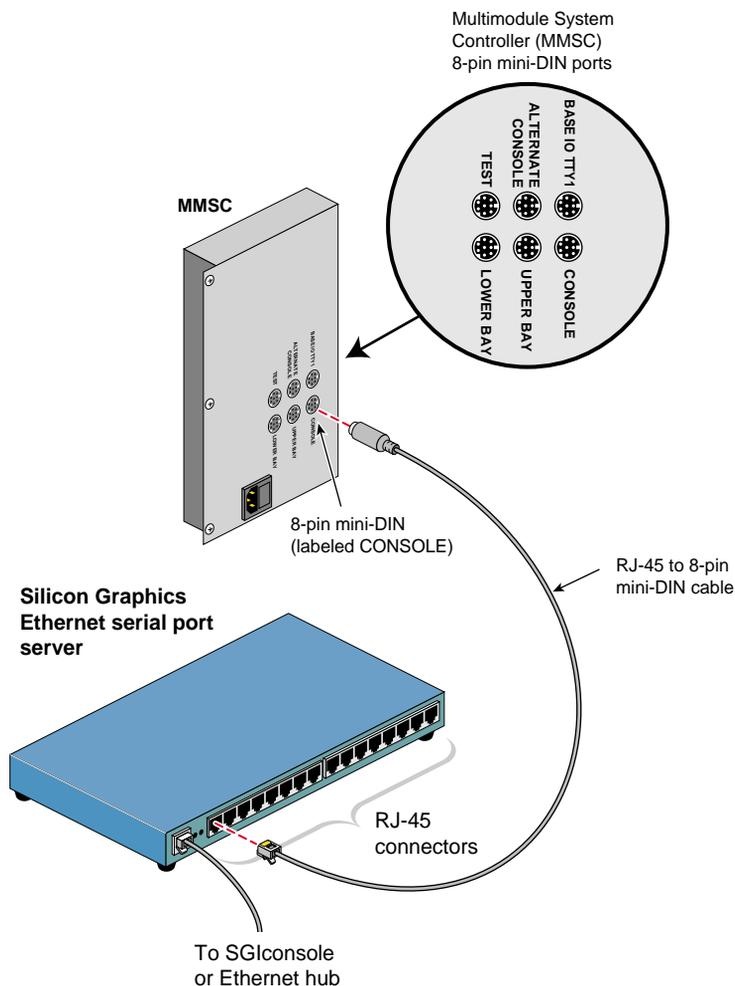

Figure 5-20 Connecting the MMSC 8-pin Console Port to the Serial Port Server
6. Connect the RJ-45 connector end of the RJ-45 to 8-pin mini-DIN twisted-pair serial cable to one of the RJ-45 serial jacks on the Silicon Graphics EL-16 serial port server. Then connect the 8-pin mini-DIN end of the cable to the 8-pin connector on the MMSC labeled “Console.” See Figure 5-20.